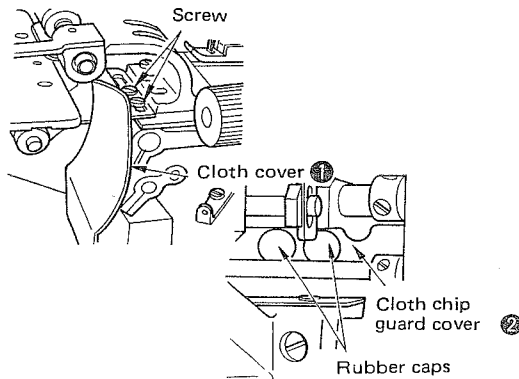

Fig. IV-12-1
Remove left-side and right-side cloth covers ①, followed by the two rubber caps on cloth chip guard cover ②. Adjust the receding amount of the looper using a screwdriver through the holes in the cloth chip guard cover. (See Fig. IV-12-1)